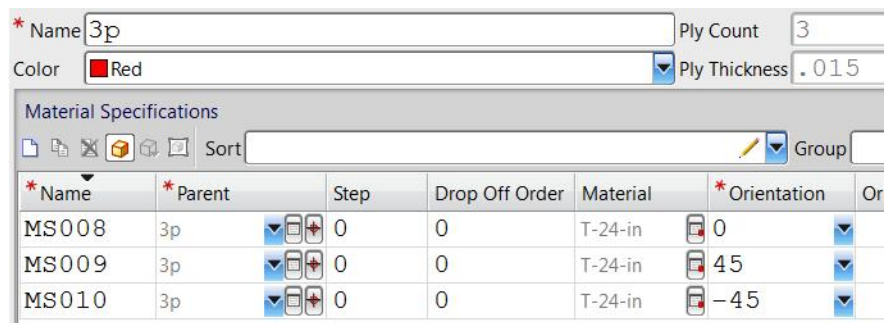

**Figure 9–9**
3. Link **CENTER\_PAD** for *Boundary* as shown in Figure 9–9: